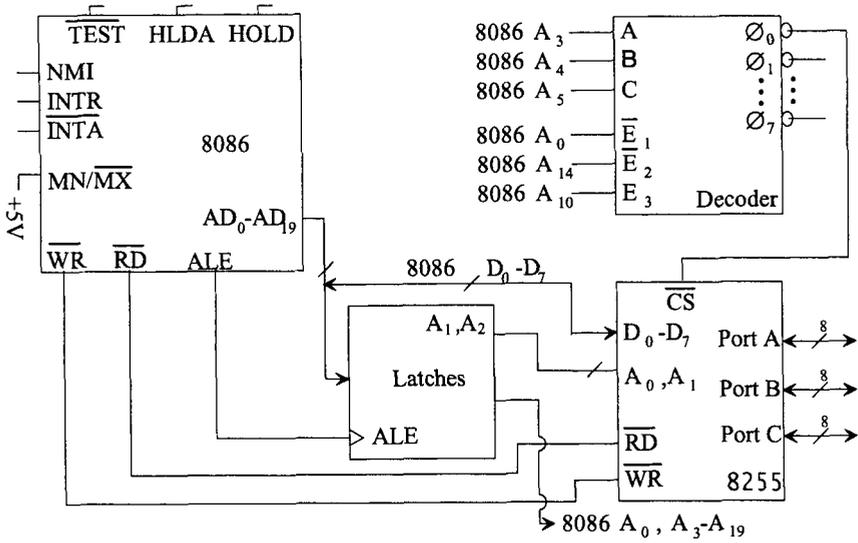

FIGURE P9.37
9.37 Will the circuit shown in Figure P9.37 work? If so, determine the I/O map in hex. If not, justify briefly, modify the circuit and determine the I/O map in hex. Use only the pins and signals provided. Assume all don't cares to be zeros. Note that I/O map includes the addresses for port A, port B, port C, and the control register. Using the logical port addresses, write an instruction sequence to configure port A as input and port B as output.